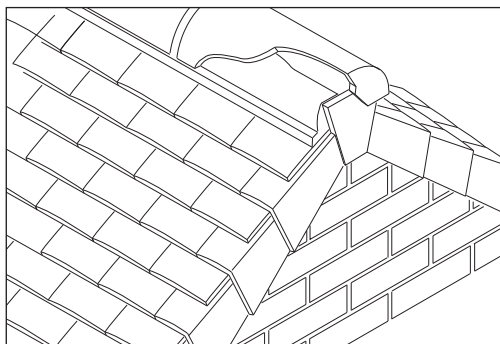

Fig 5 Stop end ridge tile used to finish cloak verge at ridge
- 7 Complete the apex closure of the two top course cloak verge tiles by fitting a Stop End Ridge Tile and a tile-and-a-half/gable tile, cut to fit between the vertical legs of the top course cloak verge tiles. Drill and nail cut tile to timber groundwork (Fig. 5).